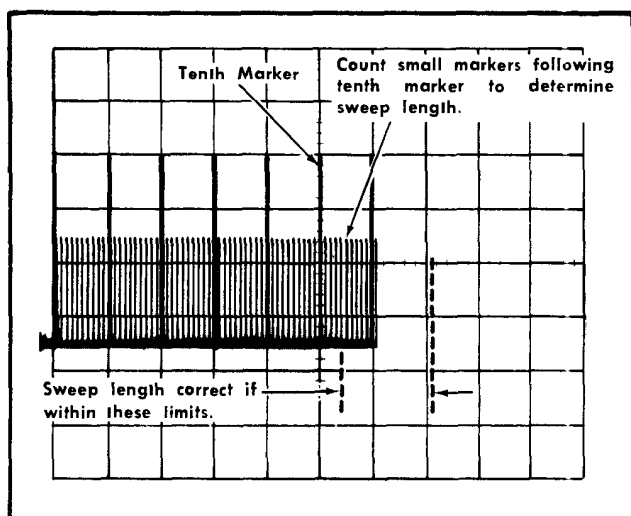

Fig. 5-14. Typical CRT display when checking sweep length.
c. Position the tenth marker to the center vertical line with the Horizontal POSITION control (see Fig. 5-14).
d. CHECK—sweep length between 10.4 and 12.1 divisions, as shown by 0.4 to 2.1 divisions of display to the right of the vertical center line (see Fig. 5-14). Large markers in the display indicate divisions and small markers 0.1 division.